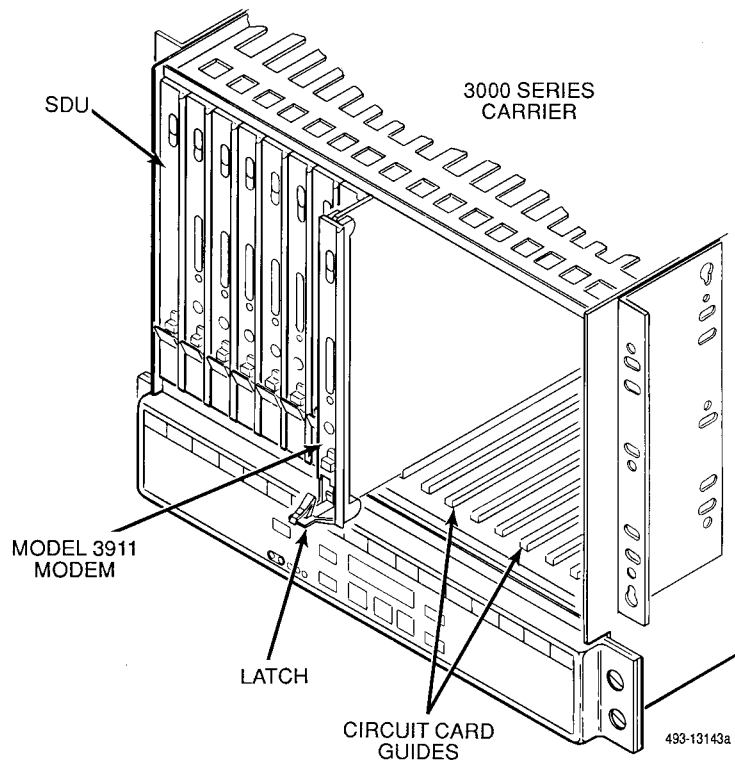

Figure 2-2. Installing a Model 3911 Modem
2. At the front of the carrier, hold the modem vertically, with the latch on its faceplate in the open position, and insert it into the top and bottom card guides of one of the slots numbered 1–16 (Figure 2-2).